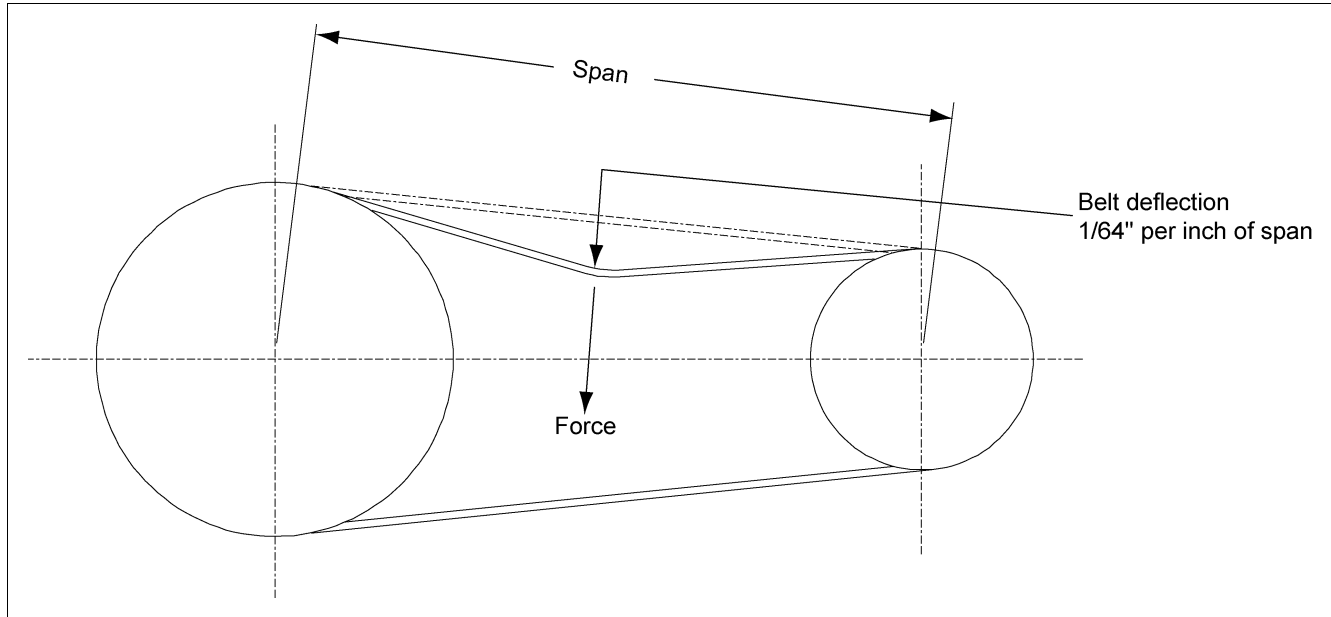

Figure 6U
Adjustment of V-belt tension is achieved by tightening the hex nuts located on the four (4) jack screws of the motor base. Adjust motor base equally at all four (4) jack screws to maintain shaft alignment. Belts are designed to fit loosely upon installation. When the V-belt tension is correct, tighten the top nut on the jack screws to lock the motor base in position. Proper tension is $1/64$ " of deflection per one inch (1") of sheave centers on one side of belt, centered between sheaves. (See Figure 6U.)